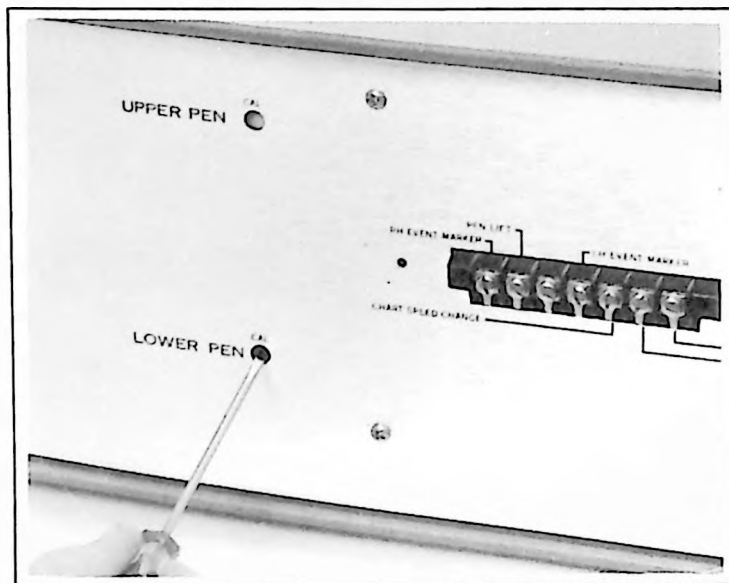

Figure 5-21. CAL Adjustment
- d. Adjust CAL potentiometer(s) (A2R4) through rear of recorder until pen(s) coincide with full scale line (Figure 5-21).